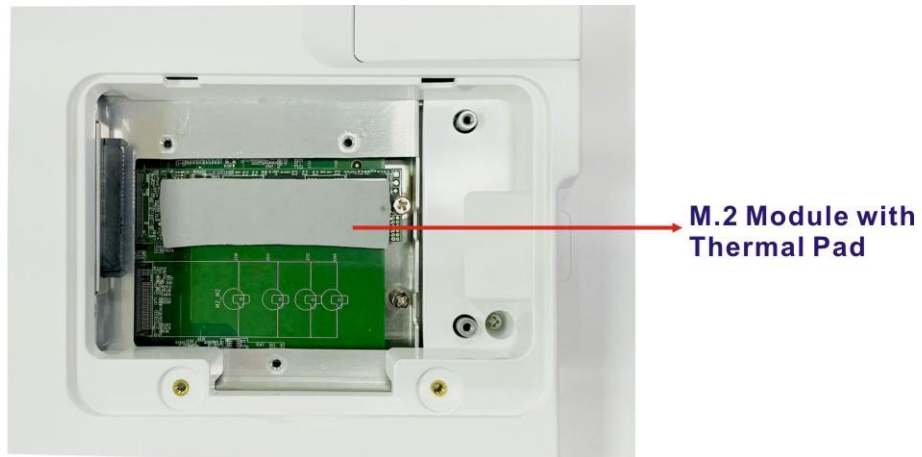

Figure 3-7: Securing the M.2 Module
Step 5: Secure the M.2 module with the previously removed retention screw. Attach a thermal pad onto the M.2 module (**Figure 3-7**).